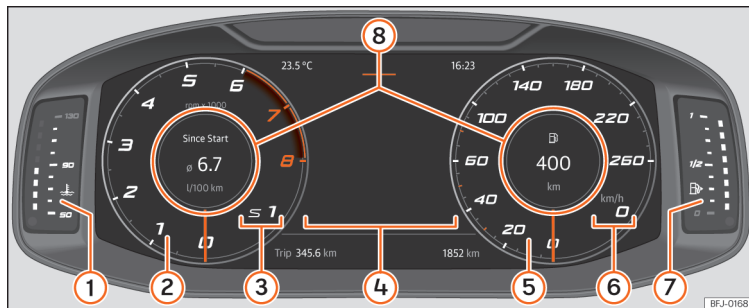

Fig. 68 SEAT Digital Cockpit on the instrument panel (classic view).
In the **Classic** and **Navigation** views it is possible to customise the information displayed under **Information profiles** »» **Fig. 68** ⑧.
»» **Fig. 68.**